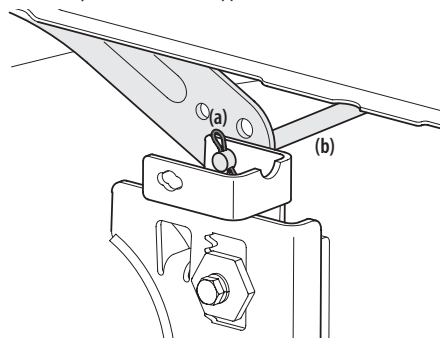

Figure 31
5. Looking at the cutting deck from the left side of the tractor, locate the bow-tie pin (a) that secures the deck support rod (b) on the rear left side of the deck. See Figure 31. Remove the bow-tie pin (a) that secures the deck support rod (b), and carefully remove the deck support from the deck lift arm.